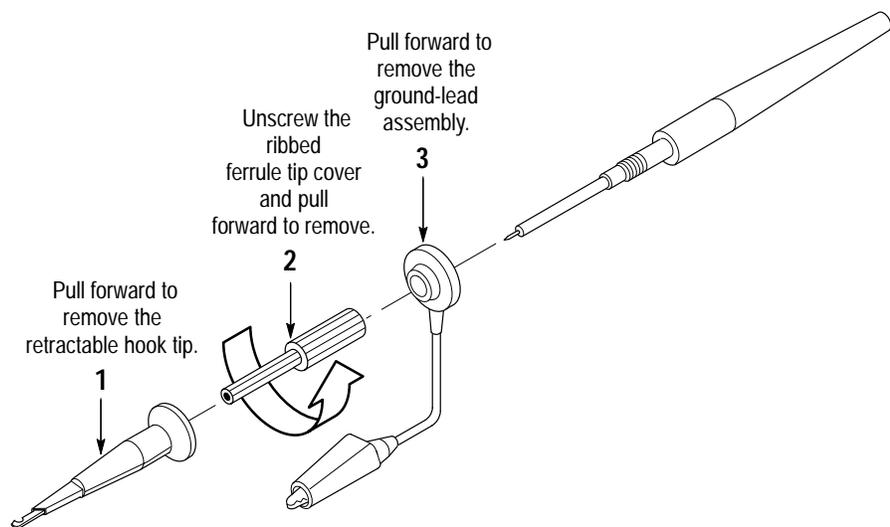

Figure 5–5: Exposing the Inner Probe Tip
- a. *Expose the Inner Probe Tip:* Follow the instructions in Figure 5–5.